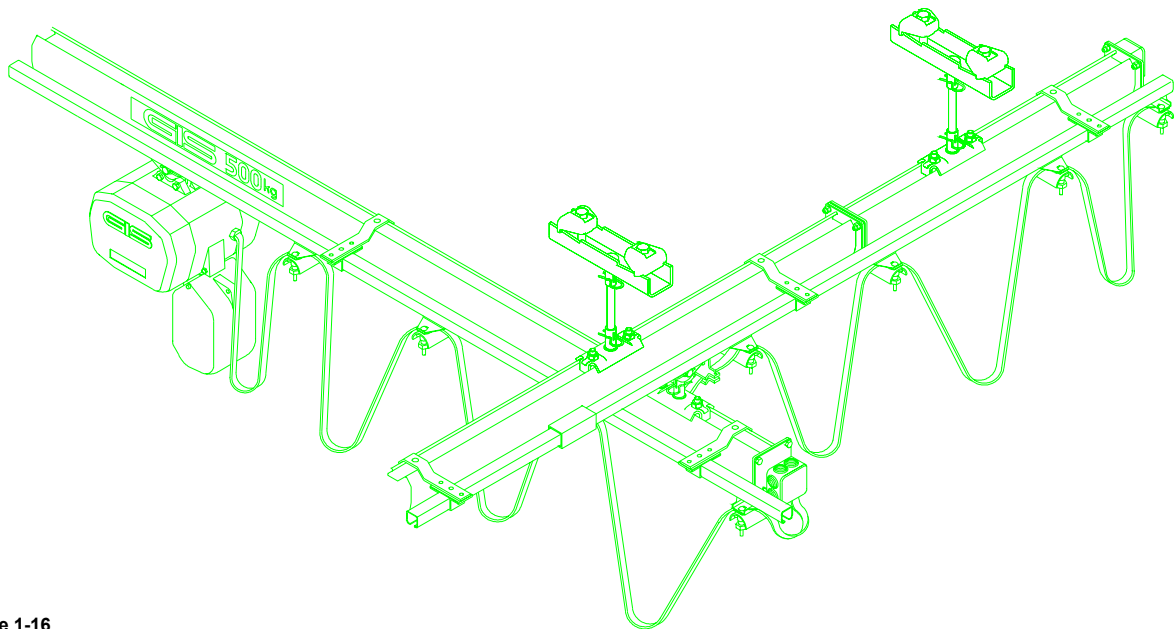

Figure 1-16
1.4.2 Trailing cable on C-rail (Figure 1-16)
Assembly is performed in the manner shown in figure 1-16.